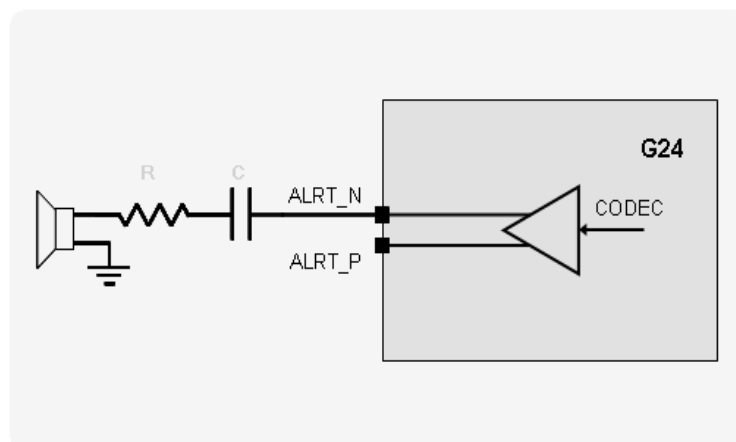

Figure 2-22: Single-ended Loudspeaker Circuit
**Important:** When implementing a single ended loudspeaker design, it is required to place a series capacitor and resistor on the alert output line, as illustrated in Figure 2-22. The capacitor should be of low tolerance with values of  $C = 10\text{-}22\ \mu\text{F}$ . The resistor value should be  $R = 0\ \Omega$  at the design stage, but may be changed to a different value during audio safety testing, in case that alert level limitation is required.